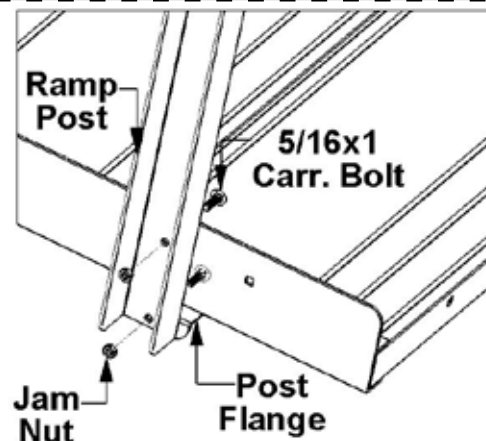

Fig.4.4
**4.2 Ramp Post Attachment:** Attach handrail after an entire ramp run has been spliced together. First, layout all ramp handrails along the sides of the ramp run. Starting with the shortest ramp section, attach the double post handrail assembly. Attach each post by aligning the bottom post hole to the post flange hole then run a carriage bolt through both holes and fasten with a jam nut. Next run a carriage bolt through the ramp frame and ramp post and fasten with a jam nut (Fig.4.4). *Note: to align top set of holes, complete post to flange attachment first then hold ramp post with one hand and apply downward pressure to run carriage bolt through with the other hand.*